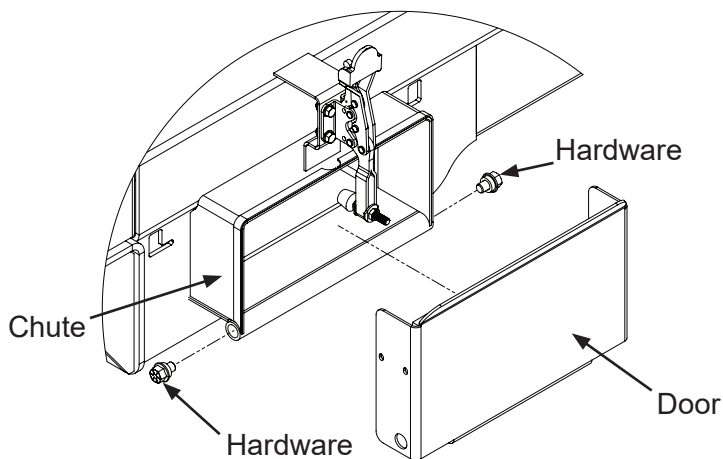

Figure 2
3. Remove and retain the existing hardware, spacers, and door from the cleanout chute using a 3/4" wrench (Figure 2).